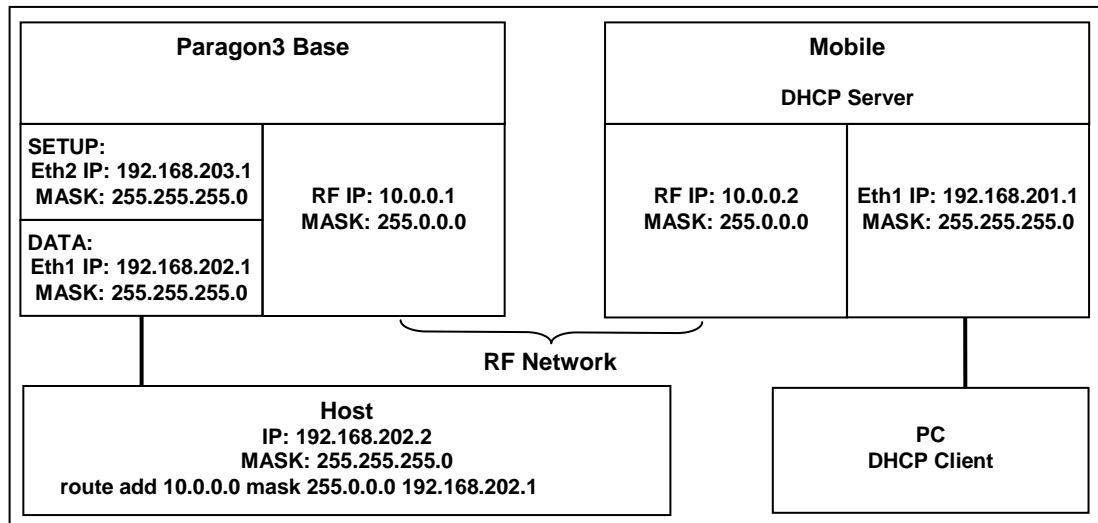

Figure 14 - IP Network Settings in Router Mode (with Host)
Figure 14 below illustrates Paragon3 base station settings. In Setup (Advanced) → LAN (IP), set the data Interface 1 port (Eth1) IP addresses (set the setup Interface 2 port (Eth2)) and IP netmask of both Base and Mobile(s).